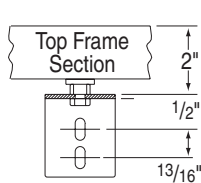
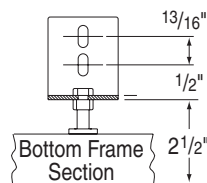

Figure 2
Figure 3
- ③ Position the upper wall brackets (with short stud) on the wall at desired height and correct distance apart. Determine distance apart by measuring the distance between the grommeted holes in top section of the frame. When the frame is positioned on these brackets, the top of the frame is 2" above the top edge of the upper brackets (see Fig. 2). Make sure these brackets are level with each other. Installer must insure that the fasteners are of adequate strength and suitable for the mounting surface chosen (fasteners not provided). Position the frame on the upper brackets by inserting the studs into the grommeted holes. Position the lower wall brackets (with long stud) so that the stud is inserted into the grommeted holes in the bottom frame section. Fasten these brackets to the wall leaving 2 1/2" between the bottom of this bracket and the furthest edge of bottom frame section (see Fig. 3).